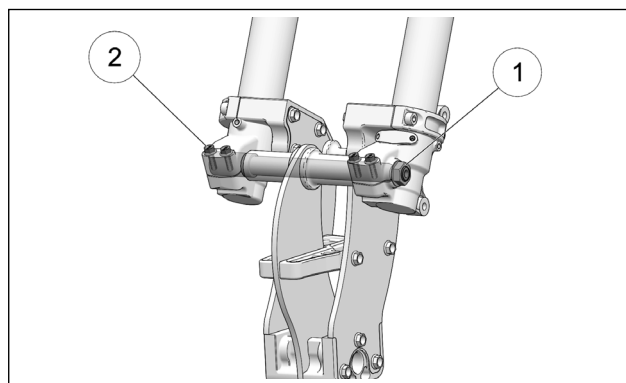

Figure 10
- Tighten, in sequence, the front wheel axle nut (1) and then the pinch bolts (2) at the bottom of the forks to the torque specifications recommended by the manufacturer of the bike. Figure 10.